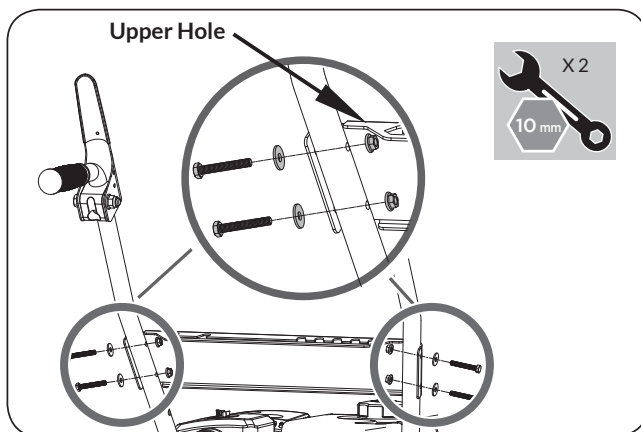

**Figure 3**
1. Remove the axle pin from the axle. (See **Figure 3 #1**)
2. Slide the wheel on the axle. (See **Figure 3 #2**)
3. Insert the axle pin through the hole in the wheel hub and through the inside hole in the axle. When inserting the pin into the wheel, place the hole side of the pin block towards the outside for easier installation. (See **Figure 3 #3**)